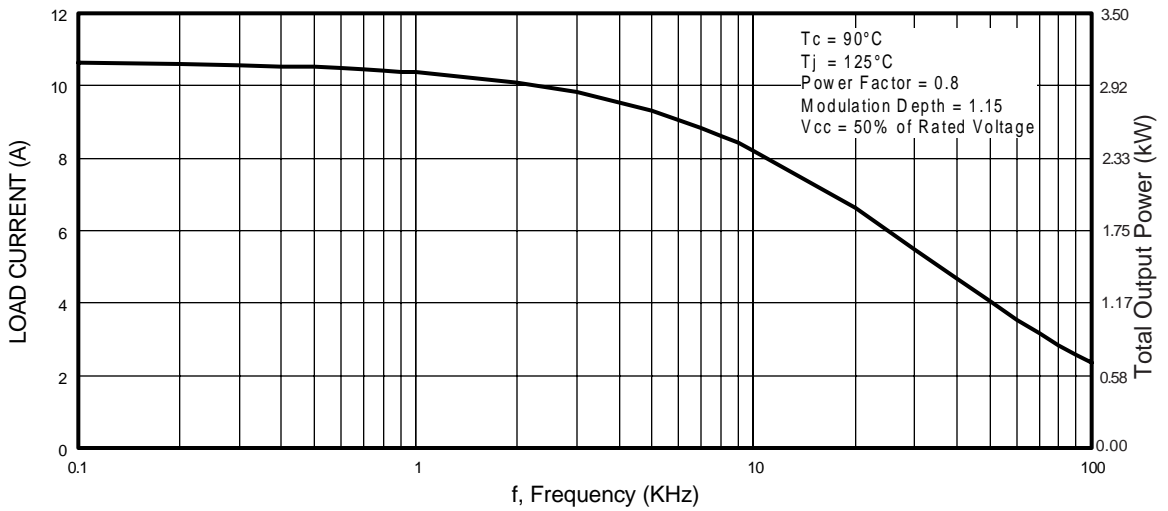

Fig. 1 - Typical Load Current vs. Frequency
See Fig. 1 for Current vs. Frequency curve
6.7 A_{RMS} per phase (1.94 kW total) with $T_C = 90^{\circ}C$, $T_J = 125^{\circ}C$, Supply Voltage 360Vdc, Power Factor 0.8, Modulation Depth 115% (See Figure 1)